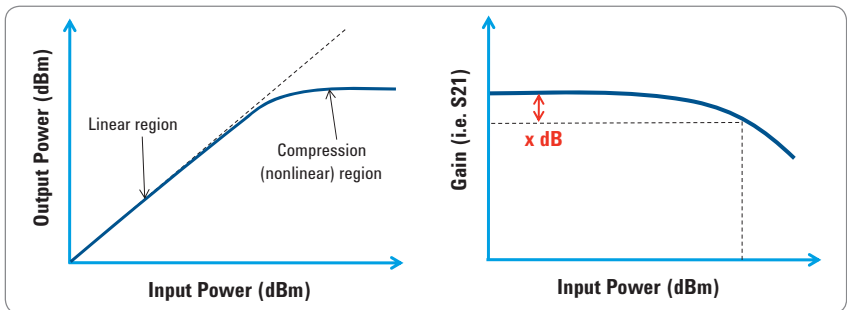

Figure 13. Gain compression measurement.
Using the power sweep with the VNA, the gain of the amplifier at the 1-dB compression point can simply be monitored as a function of input power level. This is accomplished by observing the reduction in gain at a continuous wave (CW) frequency as input power is increased, as indicated in Figure 13.